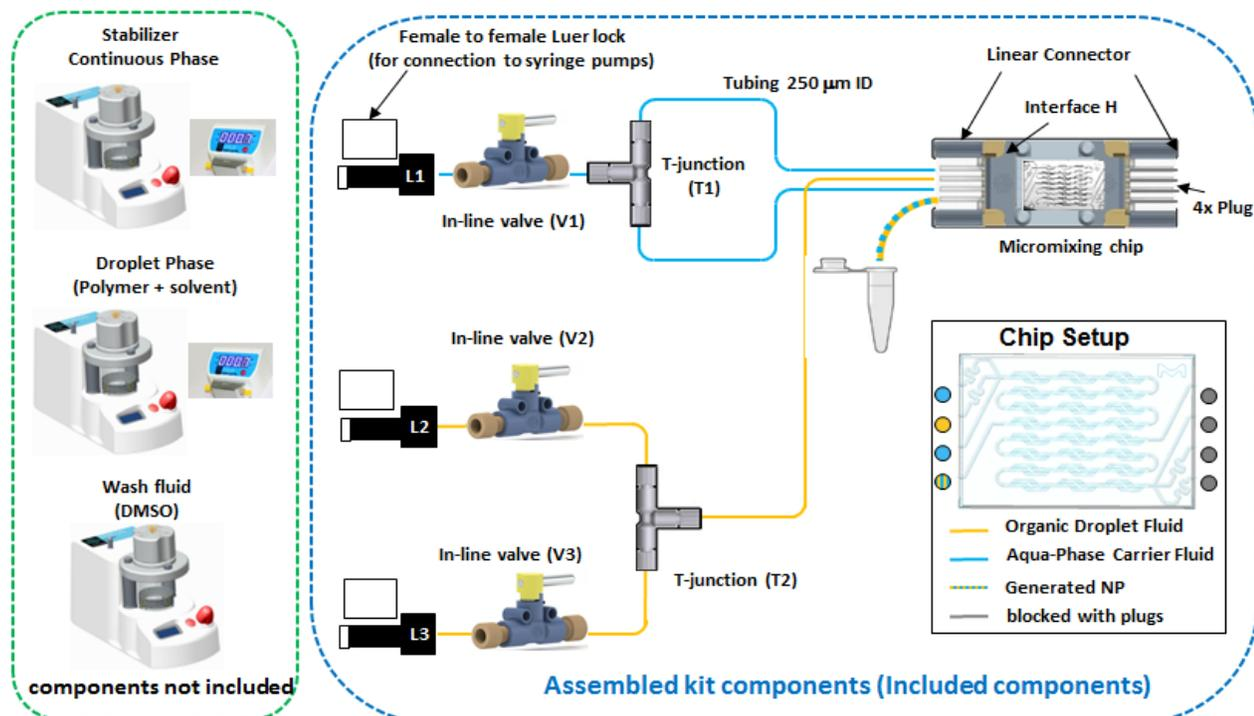

Figure 1: Schematic representation of device kit assembled with the pumps and chip
The continuous flow of **microfluidics-based methods** is an advanced method which results in narrow size distribution, enhanced control over each stage of particle fabrication, greater particle yields, ease of scalability, and excellent reproducibility. Figure 1 shows the setup of the preassembled kit components. The schematic also shows how the inlet tubes will be connected to the pumps containing different solutions.
- As shown in the setup illustrated in Figure 1, pump 1 is connected to the channels 1 and 3 (from top) of the microfluidics chip via a T-connector (T1).
Note: Ensure the chip is aligned with the connectors as shown in schematics (figure 1). Tighten the interface evenly and securely, while pressing the chip firmly against the H interface. If chip sits in the interface correctly, the gasket will be seen pressing against the chip, with the 4 tubing positions easily identifiable (figure 3-right panel). A poorly connected chip will not show the 4 tubing positions or may show only those on the over-tightened side of the chip. A poor seal between the chip and gasket will likely cause a leak in the system.